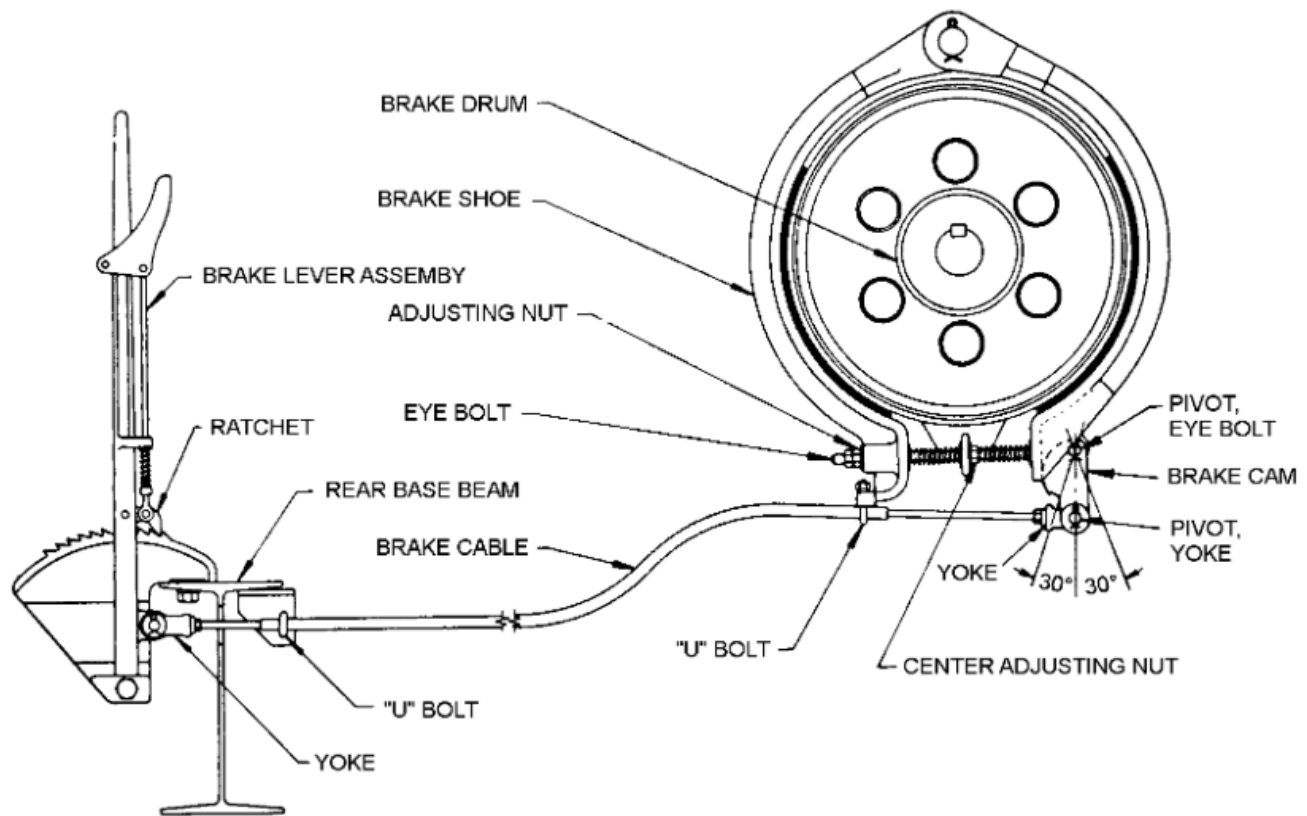

Figure 67: Shoe Type Brake
Some smaller and older units in the field may have the shoe type brake as seen in Figure 67. Before adjusting the brake, refer to Section 2, "Important Safety Instructions."
- 4) When the brake is disengaged, the pivot yoke of the cam should be at a 30 degree angle to the right. Refer to Figure 67. Simultaneously, the brake lever would be "full off," to the right of vertical.
- 5) When the brake is fully engaged, the lower end of the cam would be vertical or up to a 30 degree angle to the left. Refer to Figure 67. Simultaneously, the brake lever has the ratchet engaged and several notches still "available" for engagement.